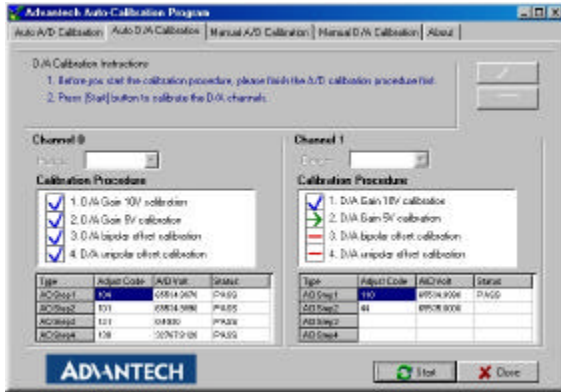

Fig. 5-13 Calibrating D/A Channel 1
Step 11: D/A channel 1 calibration is enabled (Fig. 5-13)